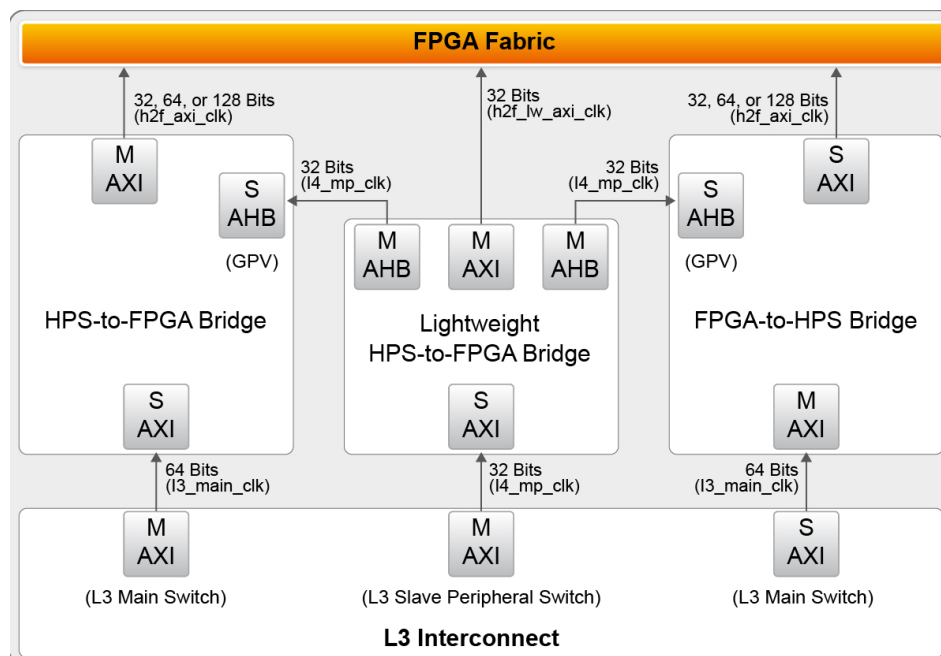

Figure 4-1 AXI Bridge Block Diagram
Figure 4-1 shows a block diagram of the AXI bridges in the context of the FPGA fabric and the L3 interconnect to the HPS. Each master (M) and slave (S) interface is shown with its data width(s). The clock domain for each interconnect is noted in parentheses.